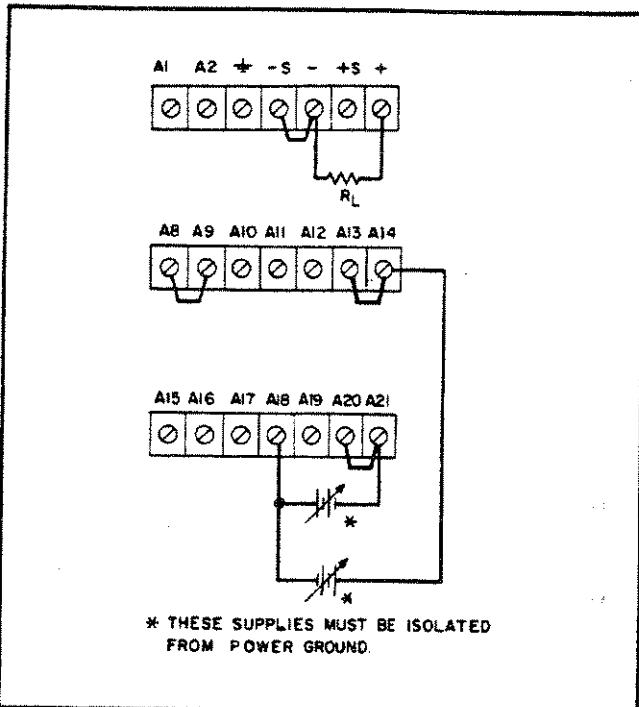

Figure 3-8. Remote Voltage Programming,
**3-52 Voltage Programming, Constant Current.** Voltage programming of the output current can be accomplished in all three operating modes (power supply, variable gain amplifier, and fixed gain amplifier). Positive and negative dc programming voltages are connected to terminals A14 and A21 respectively as shown in Figure 3-8. The positive or negative output current will vary linearly with changes in the programming voltages. The output current varies at a rate determined by the programming coefficient. The programming coefficient is 2 amps/1 volt. The maximum rated output current is 2A, therefore, the maximum programming voltage is 1 volt.